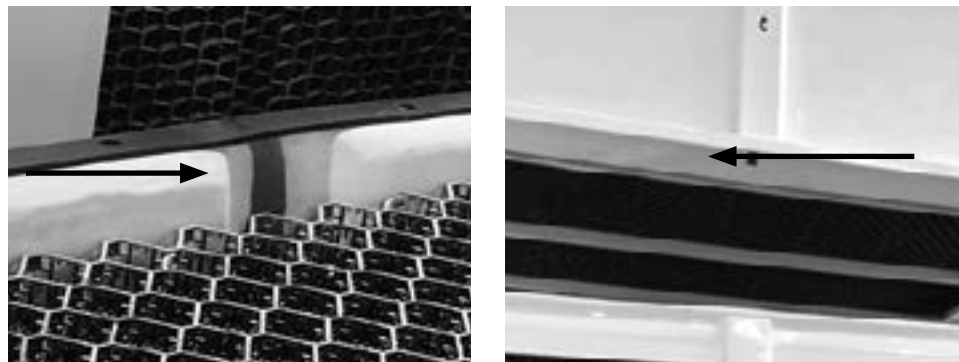

Figure AP-10: Alignment mark.
- C. The alignment of each piece is marked with a **bold line** on the inner side of the tower. See Figure AP-10.